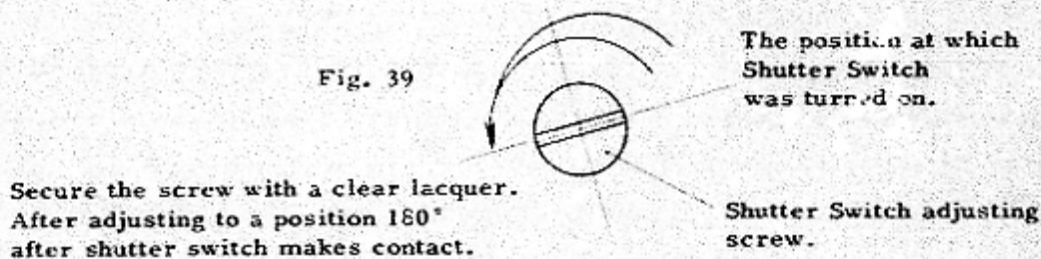

Fig. 39
- 6) Turn the shutter switch adjusting screw an additional 180° (in the direction of the arrow) after the shutter turns on, and secure it with clear lacquer. See Fig. 39.